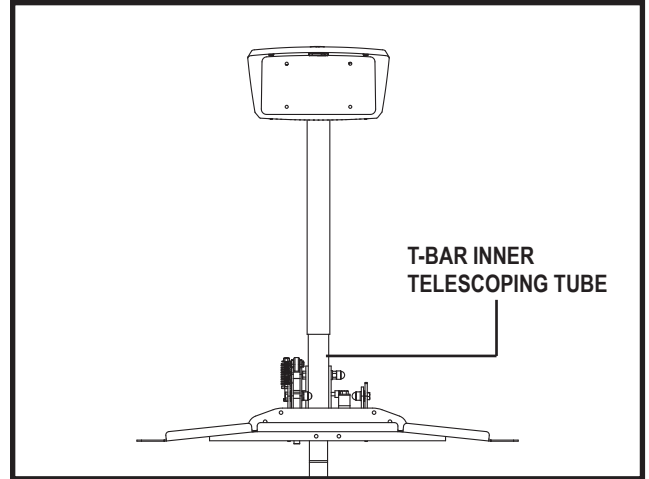

Figure 24. Lift Frame Maintenance
- Clean and lubricate the T-bar inner telescoping tube. Use only all-weather lithium grease. **See figure 24.**